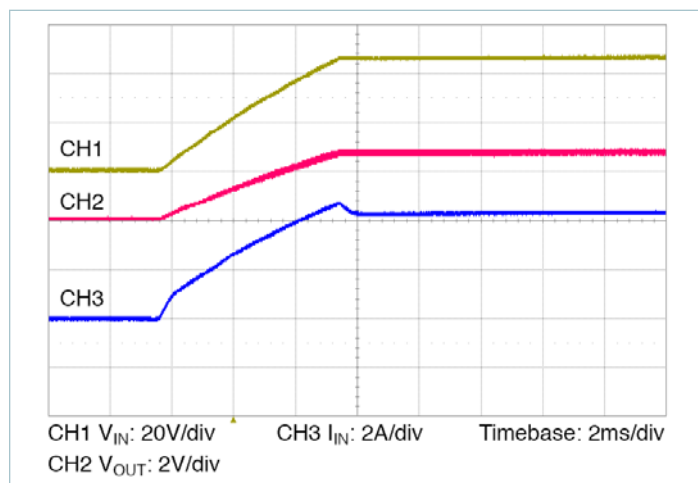

Figure 13 — Start up from application of V_{IN} ; V_C pre-applied $C_{OUT} = 16000\mu\text{F}$
- **Normal operation (VC applied prior to V_{IN}):** In this case the controller is active prior to ramping the input. When the input voltage is applied, the VTM module output voltage will track the input (See Figure 13). The inrush current is determined by the input voltage rate of rise and output capacitance. If the VC voltage is removed prior to the input reaching 26V, the VTM may shut down.